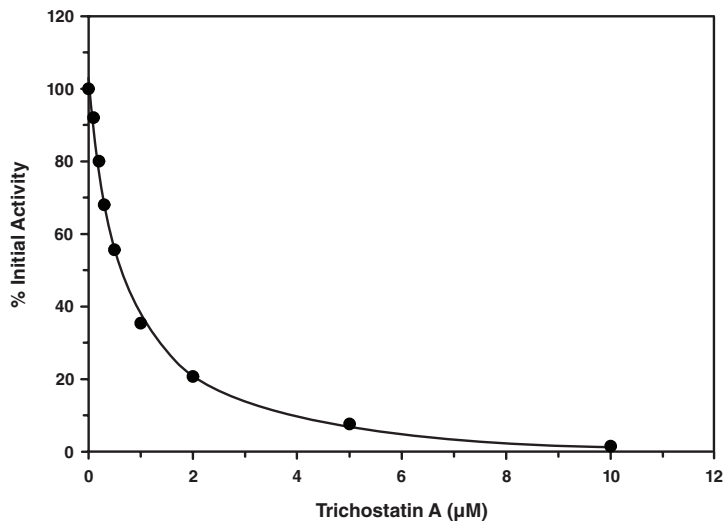

Figure 3. Inhibition of HDAC8 by Trichostatin A ($IC_{50} = 0.6 \mu M$)
4. When multiple concentrations of inhibitor have been assayed it is possible to either graph the Percent Inhibition or Percent Initial Activity as a function of the inhibitor concentration to determine the IC_{50} value (concentration at which there was 50% inhibition). An example of HDAC8 inhibition by Trichostatin A is shown in Figure 3, on page 15.